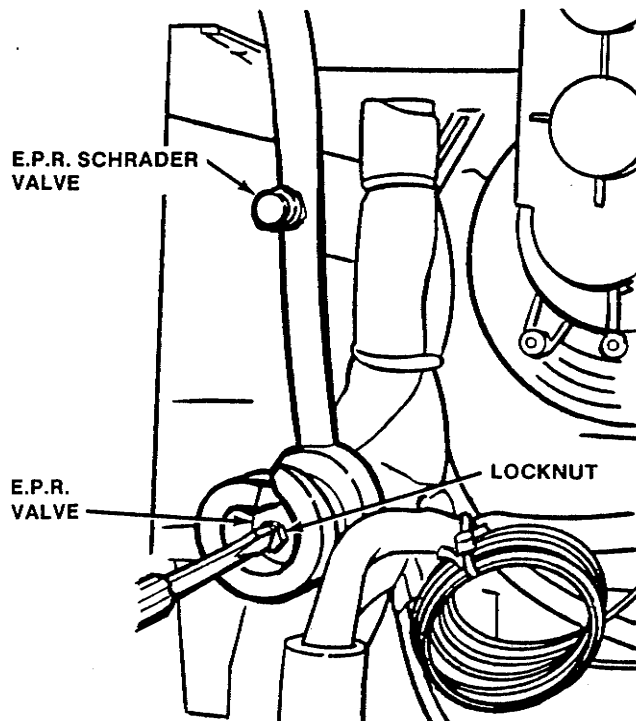

Figure 41. E.P.R. Valve Adjustment
6. Loosen the locknut on the E.P.R. valve and, using a small screwdriver, turn the valve stem $1/4$ (90°) turn counterclockwise for more cooling or clockwise for less cooling (Fig. 41).